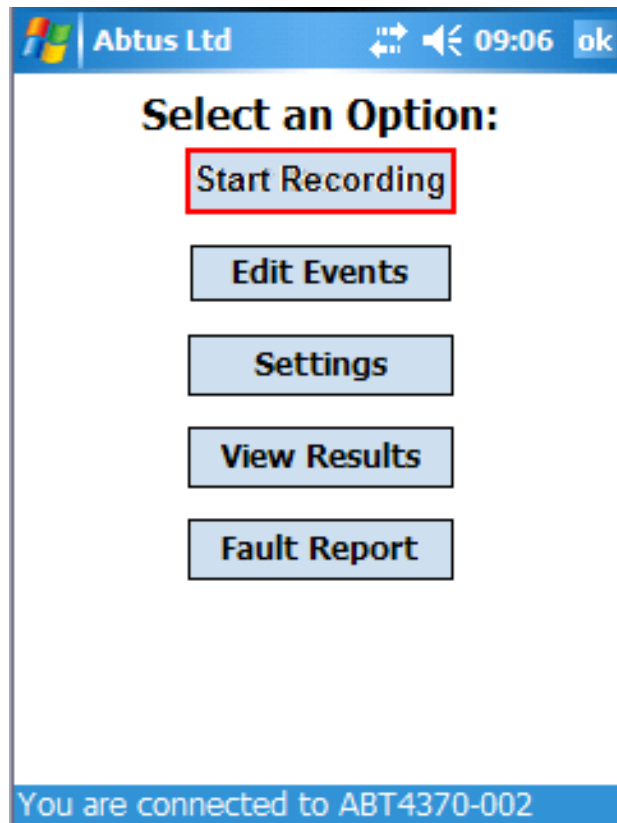

Figure 2
3. When the connection has been made, the 'Options' screen (Figure 2) is displayed
3. Select 'Start Recording' from the 'Options' screen (Figure 2)
1. Tap the 'Edit Events' button in the 'Options' screen (Figure 2)